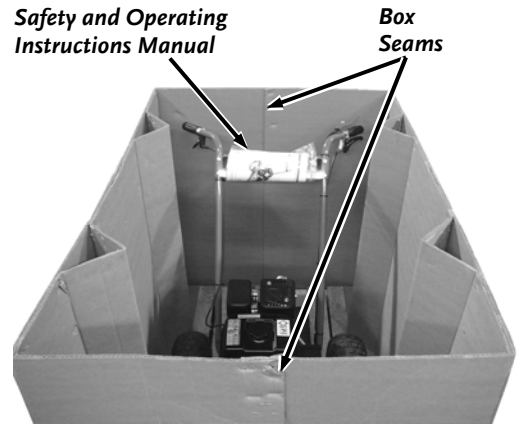

Figure 3
2. Pull the seams at the ends of the Box apart (you may need Needle Nose Pliers to loosen the staples) and lay the sides down (**Figure 3**).